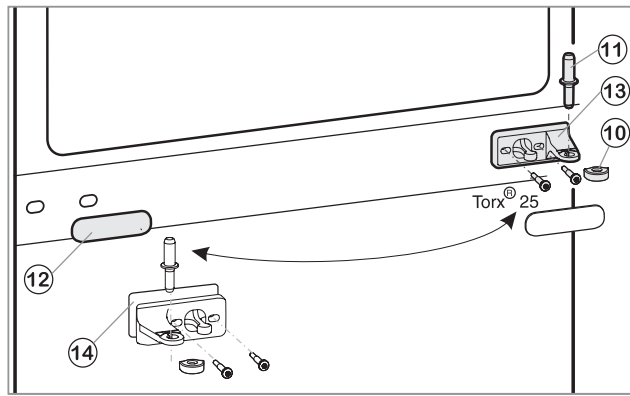

Fig.2
- Draw the middle bearing pin Fig. 2 (11) out of the turn hinge and lower door.
- Remove the plastic cap Fig. 2 (10).
- Unscrew the middle turn hinge (2x Torx® 25). Fig. 2 (13)
- Carefully detach the cover panel Fig. 2 (12).
- Turn the middle turn hinge Fig. 2 (13) with the washer Fig. 2 (14) through 180° and screw it firmly into place on the new hinge side (with 4 Nm).
- Turn the cover panel Fig. 2 (12) through 180° and snap it into place again on the new handle side.
- Place the plastic cap Fig. 2 (10) back onto the middle turn hinge Fig. 2 (13).
- Place the middle bearing pin Fig. 2 (11) in the lower door, on the new hinge side, through the middle turn hinge Fig. 2 (13).
- Place the upper door on the middle bearing pin Fig. 2 (11).
- If necessary, align the doors to the appliance housing by way of the two oblong holes in the bottom turn hinge and middle turn hinge Fig. 2 (13). To do so, unscrew the middle screw in the bottom turn hinge.